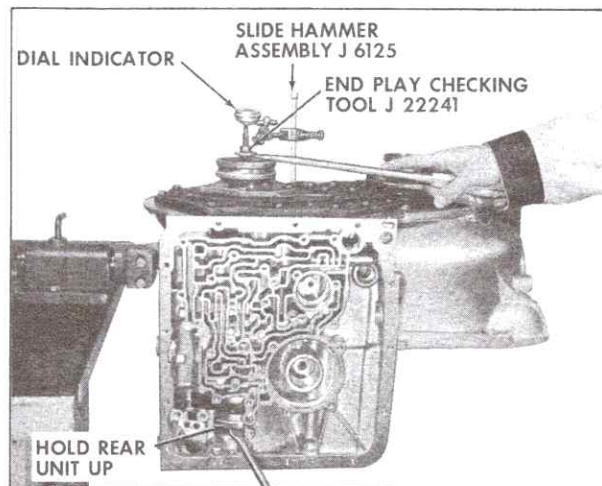

Fig. 7-152 Checking Front Unit End Play
1. Install Front Unit End Play Checking Tool, J-22241, into driven sprocket housing so that the urethane on the tool can engage the splines in the forward clutch housing. Let the tool bottom on the mainshaft and then withdraw it approximately 1/8 inch and tighten nut on tool, Fig. 7-152.
3. Mount Dial Indicator, J-8001, on Slide Hammer Bolt and index Indicator to register with the Front Unit End Play Checking Tool, J-22241, Fig. 7-152 and push Tool down to remove slack.